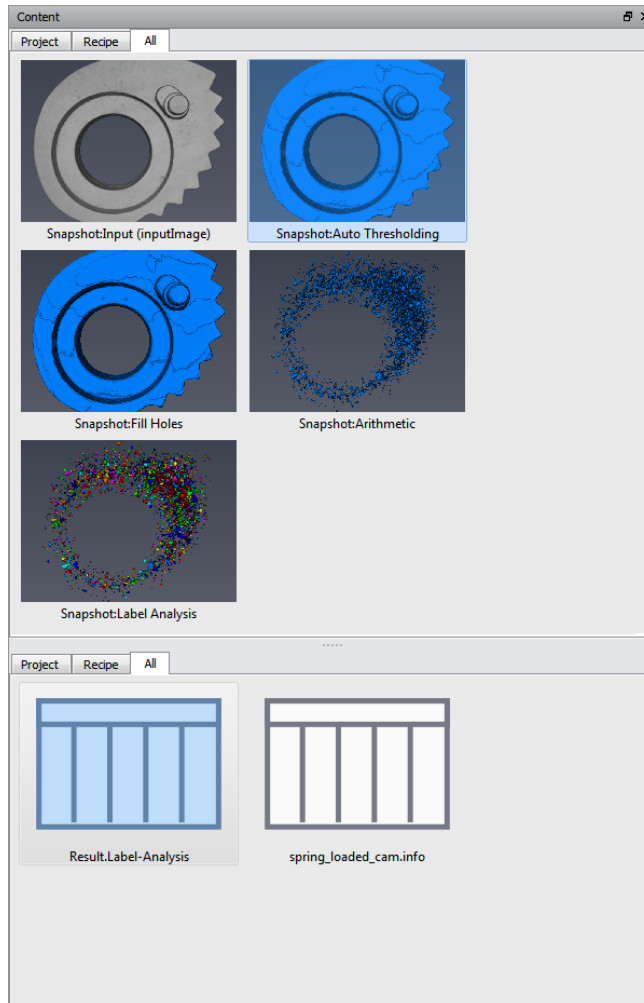

Figure 16.5: Snapshots and Table from Recipe
6. Switch to the Reporting Workroom. The snapshots and tables appear in the sub-panels. Note that when loading a recipe, Avizo automatically detects the snapshots generated by the recipe, and the snapshot sub-panel is automatically populated with *empty* snapshot placeholders. This is not true for tables since the recipe must be played once for Avizo to determine which tables are generated (see Figure 16.5).